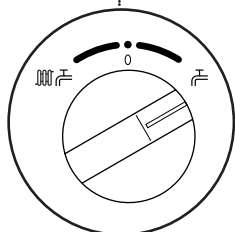

Fig. 5
5. **Position (ii)** In this position the boiler will heat the hot water storage cylinder as required. (Fig. 5).